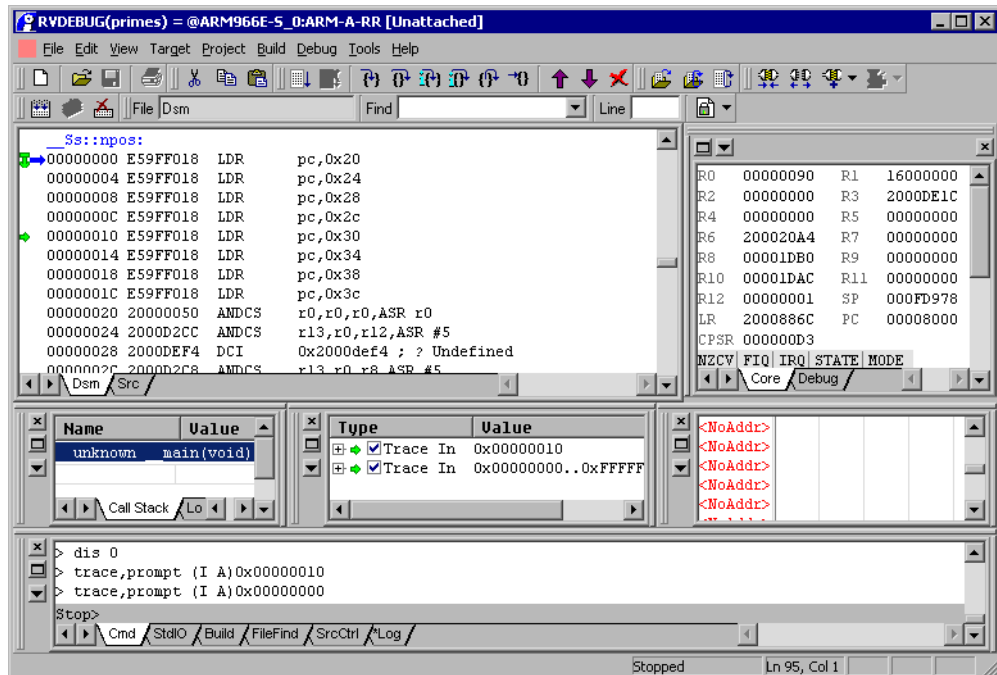

Figure 2-43 Setting a trace range
- c. In the List Selection dialog box, select **Start of Trace Range (Instruction and Data)** and click **OK**. Another arrow  is placed next to the address 0x0. This arrow indicates the start of the trace range you have set, and details of this tracepoint are displayed in the Break/Tracepoints pane of the Code window, as shown in Figure 2-43 on page 2-138. The end of the trace range is automatically set to the end of memory space (0xFFFFFFFF).